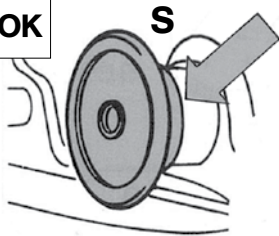

Fig. 4
- Pull safety pin (**S**) and press hand lever upwards until it engages (see Fig. 4).
After each hitching procedure, it is essential to check that the hitch is correctly closed and locked. The safety pin must not protrude out of its guide after hitching (see Fig. 4).